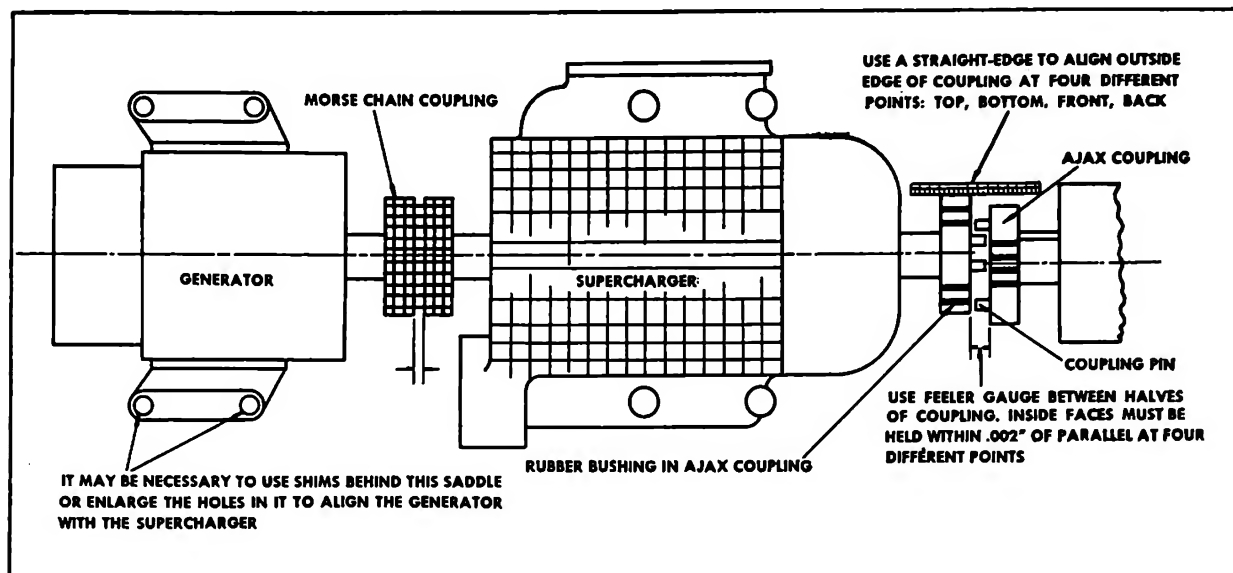

Fig. 12-29. Alignment of generator to supercharger
6. Check the alignment of the coupling with a feeler gauge between the halves of the coupling. The inside faces of the coupling halves must be held to within .002 of parallel measured at four points—top, bottom and both sides. Check the outside edge at four points. See Fig. 12-29.